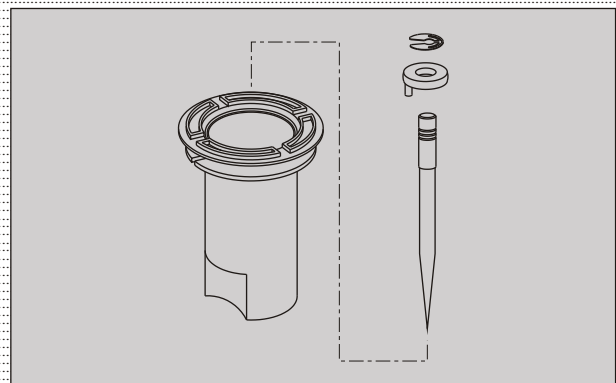

Fig. 4.30
- Push jet needle from the bottom and remove the jet needle with 'E' ring jet needle and ring jet needle. (Fig. 4.30)